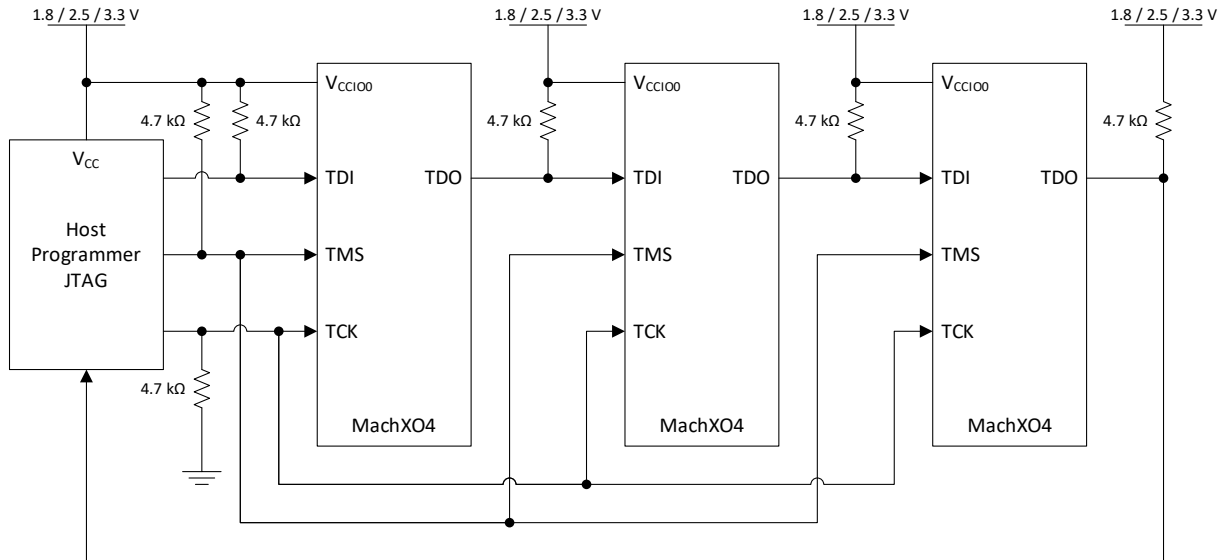

Figure 6.8. JTAG Daisy Chain Example
**Figure 6.8** shows a typical implementation of a JTAG daisy chain with three devices. Data passes from one device to the next through the TDO and TDI pins.